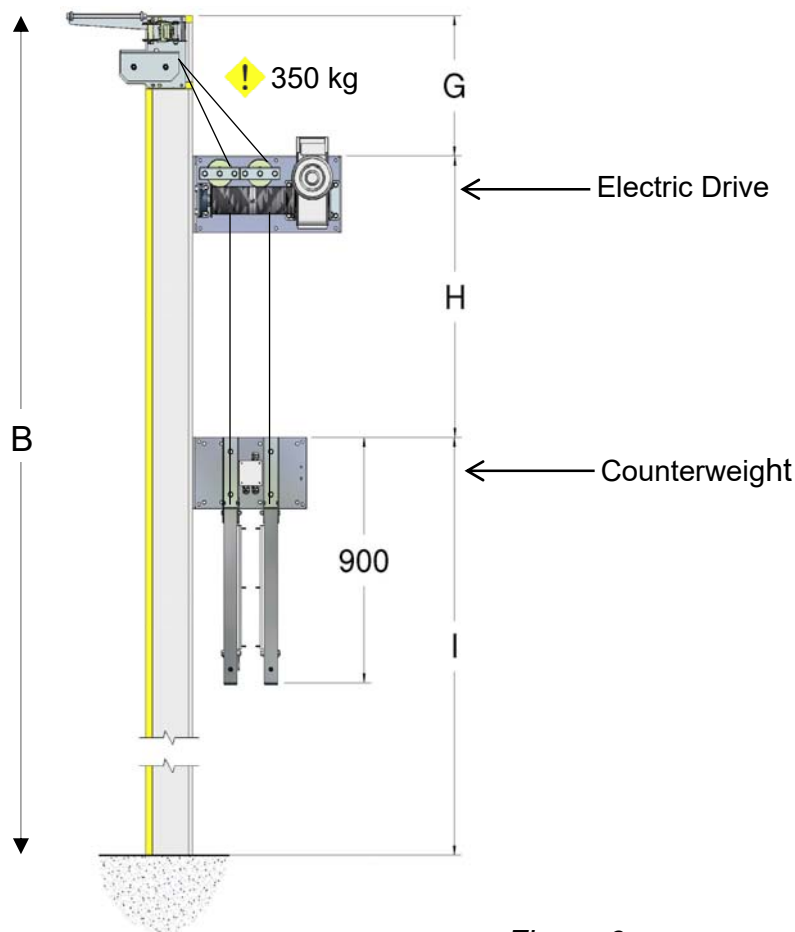
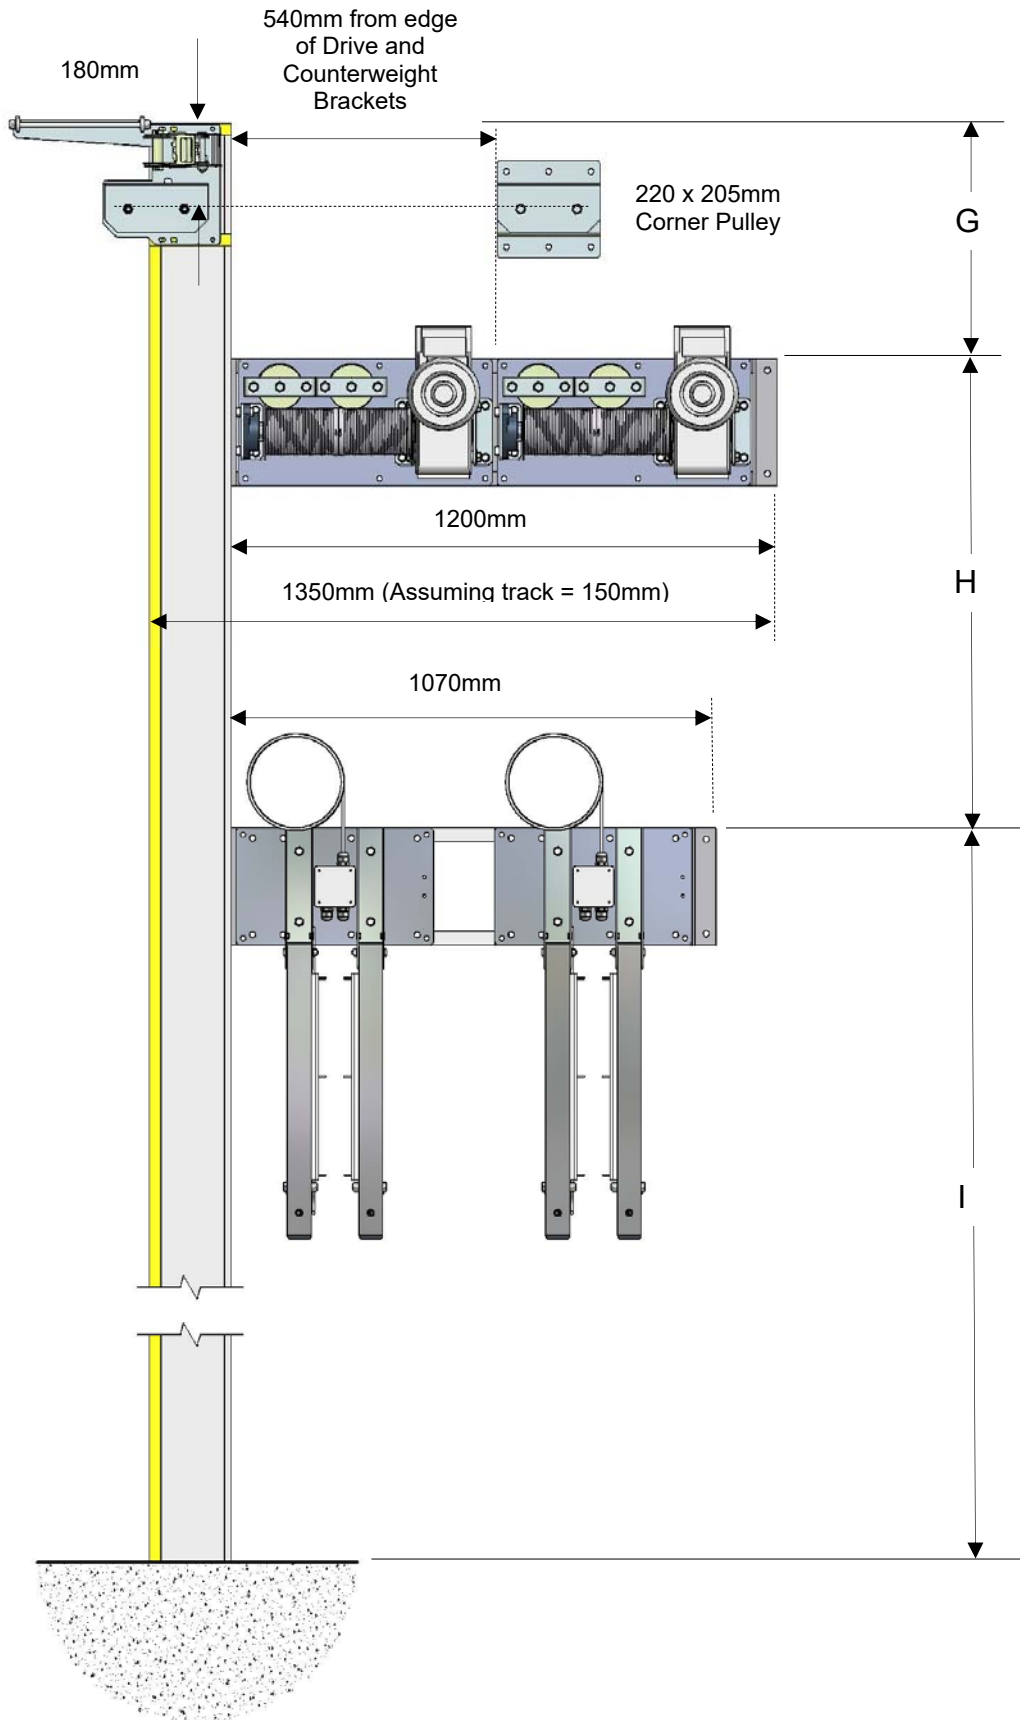

Figure 6
Figure 13b
7. The position of the Electric Drive and Counterweight Plates for the various heights (B) of door are shown on Table 2 and Figure 6. Note for heights 3.2m to 3.8m the bottom of the counterweights are less than 2m above ground, and measures will need to be taken by the customer to prevent operators and bystanders making contact with them.
- ❖ Referring to Figure 13b the rules for dimensions of G, H and I in relation to height B as detailed in Point 7 and Figure 6 still apply.
- ❖ The corner pulley will be mounted at the same level as the top bracket, Figure 13b.